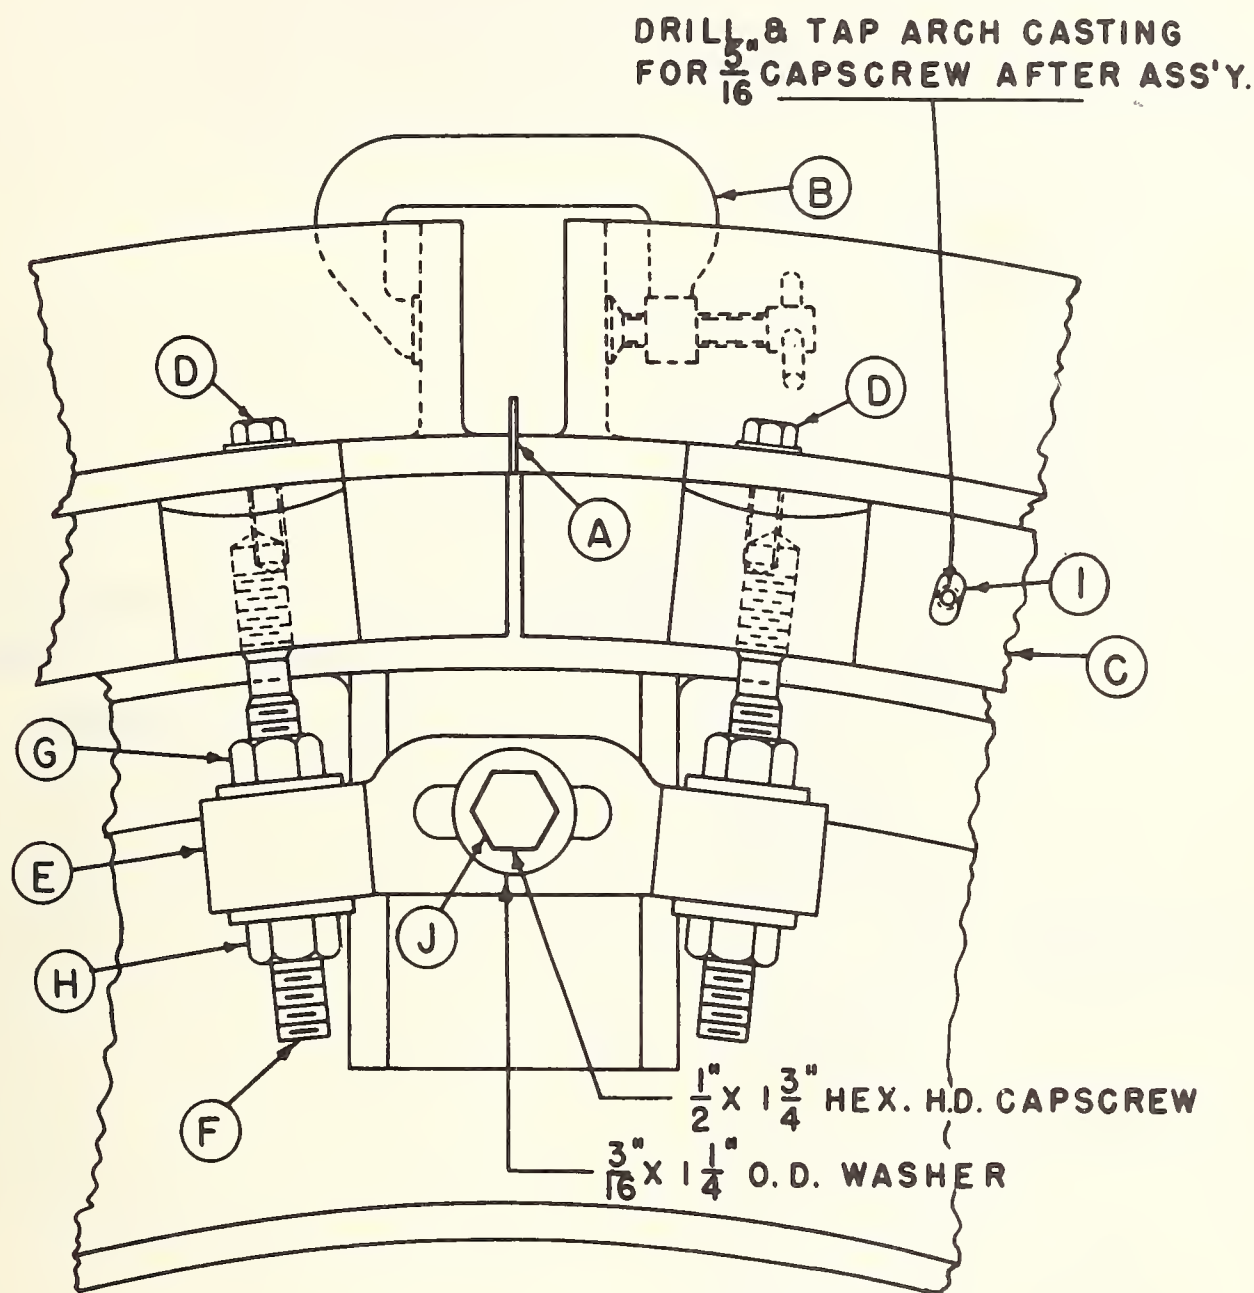

Figure 3. Top Plate mounting.
There are four top plates per card, all identical and symmetrical end for end. These plates are a specially selected aluminum alloy casting and have been machined to a very close tolerance on the surface which fits to the cylinder. This machined surface should be kept clean and free from oil, and handled carefully to avoid scratching or marring. It is preferable that the top plate assembly be mounted on the card before applying the granular material to the plates. Remove the dust shields before installing the plates. Set the first top plate on the card against the front knife plate. Set a second top plate on the card, adjacent to the first. As shown in Figure 3, insert a spacer (A) between the plates and secure the plates with a C-clamp (b). The spacer should be $\frac{1}{16}$ " thick if the clothing wire